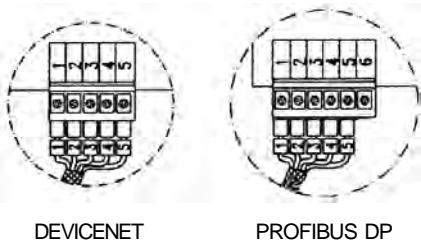

Figure 8.38 - Connection to the Fieldbus board
6. Connect the other cable end of the Fieldbus connector to the electronic Fieldbus board, as shown in figure 8.38.